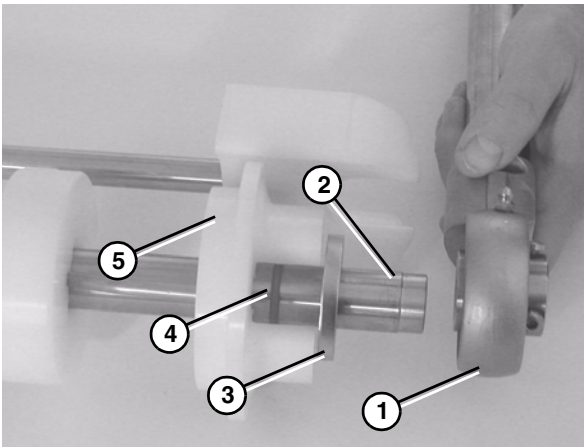

Figure 69
5. Slide the bearing shaft assembly (**Figure 69, item 1**) washer off (**Figure 69, item 3**), O-ring (**Figure 69, item 4**), and flanged puck (**Figure 69, item 5**) off the idler shaft (**Figure 69, item 2**).